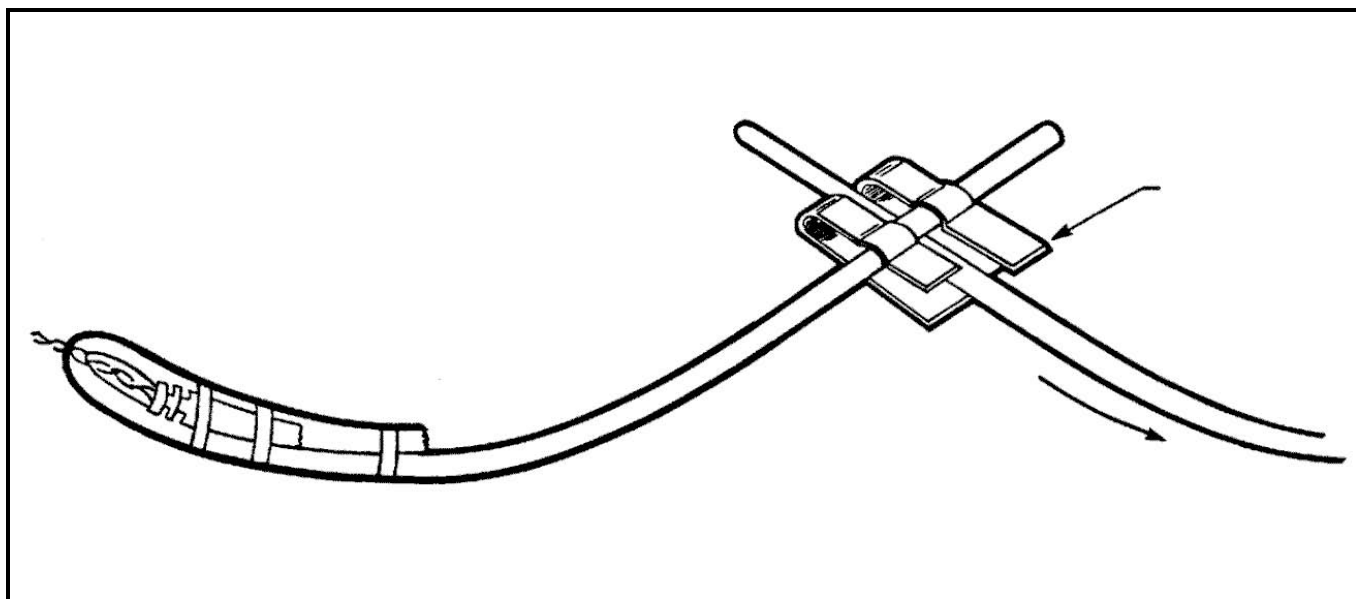

Figure 7 Alternate Initiation Method, Detonating Cord Assembly
- Attach an initiating set consisting of approximately 0.5 m of detonating cord to the "Nonel" shock tube assembly using a clip cord detonating (See Figure 7).